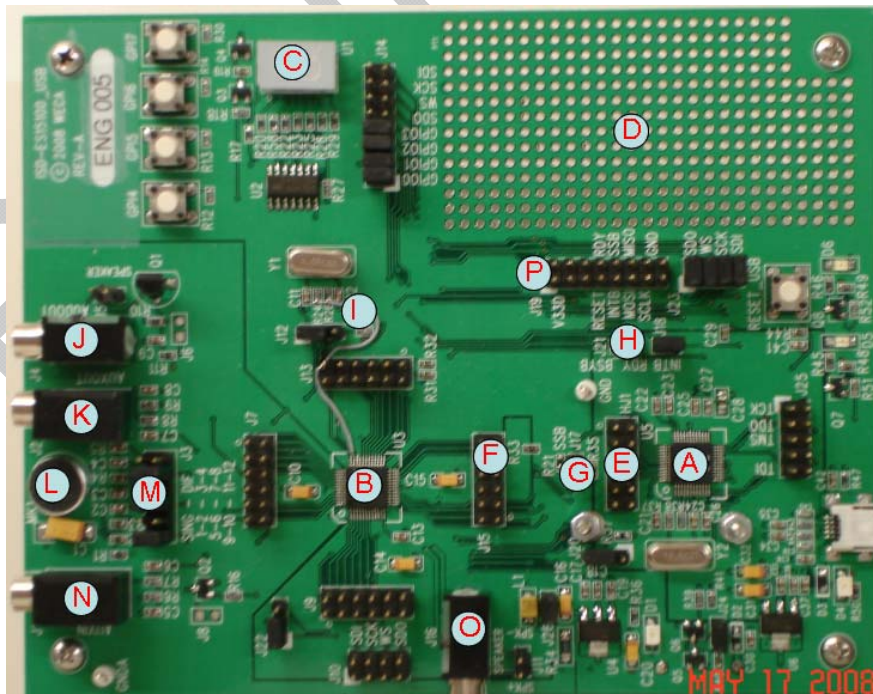

Figure 3-2 ISD-ES15100_USB
Figure 3-2 below is the ISD15100 EV board. On the right hand side is the ISD15U110 (A), our ISD USB1.1 controller especially designed for ChipCorder ISD15100 family. In the middle is the ISD15108 (B), 8-minute duration based on 8 kHz & 4-bit ADPCM. On the left hand side are analog circuitry and connectors for recording and playback. Upper left corner is a 7-segment display (C) controlled by four GPIO pins of ISD15108 (B). Upper right corner is a hole-array (D) for users' prototyping.